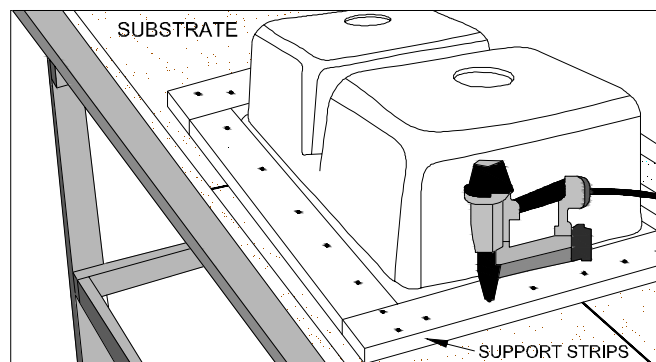

Figure 7D
- Place  $\frac{3}{4}$ " thick wood support strips around entire perimeter of sink flange. (FIG. 7D)